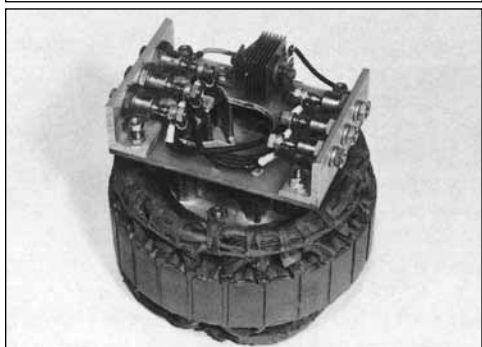

Figure 6-37
1. Clean dust and dirt from the exciter armature and rectifier assembly (see Figure 6-37 and section 5).